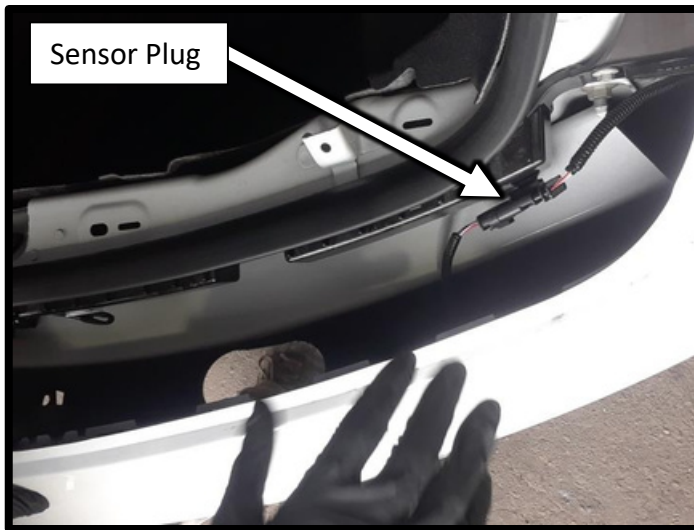

Figure 5.1
- Disconnect the Sensor plug from the chassis on the passenger side as shown in figure 5.1 and store the bumper in a safe place.